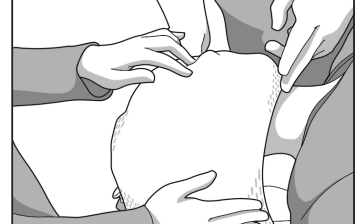

Fig. 4
7. Finish molding the mask with gentle finger pressure to achieve the desired contour of the patient's head as well as a contour around the nasal arch (Fig. 4).